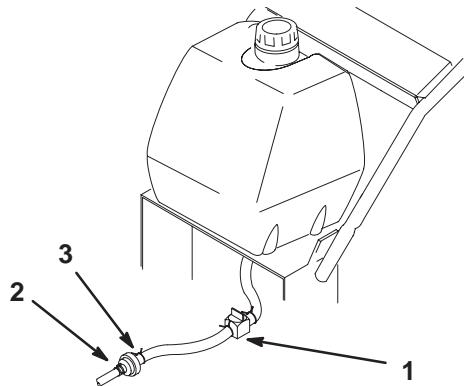

Figure 47
2. Close the fuel shut-off valve in fuel line (Fig. 47).
3. Squeeze the ends of the hose clamp together and slide it up the fuel line away from fuel filter (Fig. 47).
4. Pull the fuel line off the fuel filter (Fig. 47). Open fuel shut-off valve and allow gasoline to drain into a gas can or drain pan.
3. Close fuel shut-off valve (Fig. 47).
7. Open the fuel shut-off valve at the fuel tank (Fig. 47).